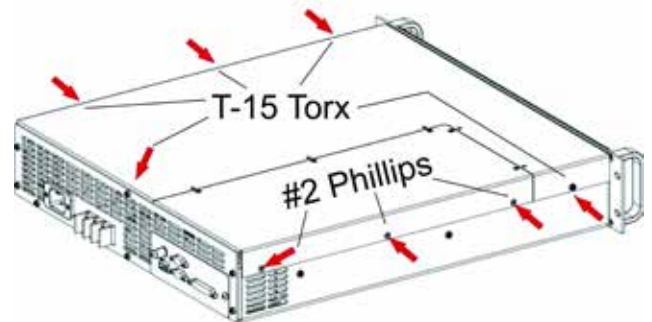

Figure B.2.16 – Removing the Top Cover
2. Use a #2 Phillips screwdriver to remove the three (3) screws, as shown in **Figure B.2.16**.
3. Use a T-15 Torx wrench to remove the five (5) Torx screws, as shown in **Figure B.2.16**.